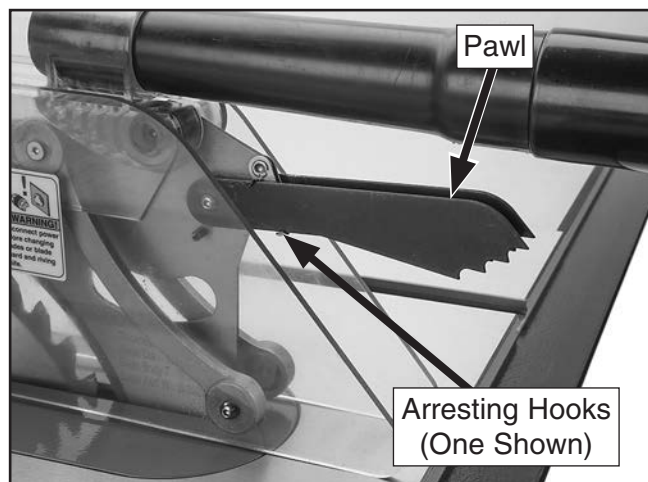

Figure 52. Pawls disabled.
2. Rotate one or both arresting hooks downward, then place pawls on each of the hooks, as shown in **Figure 52**.